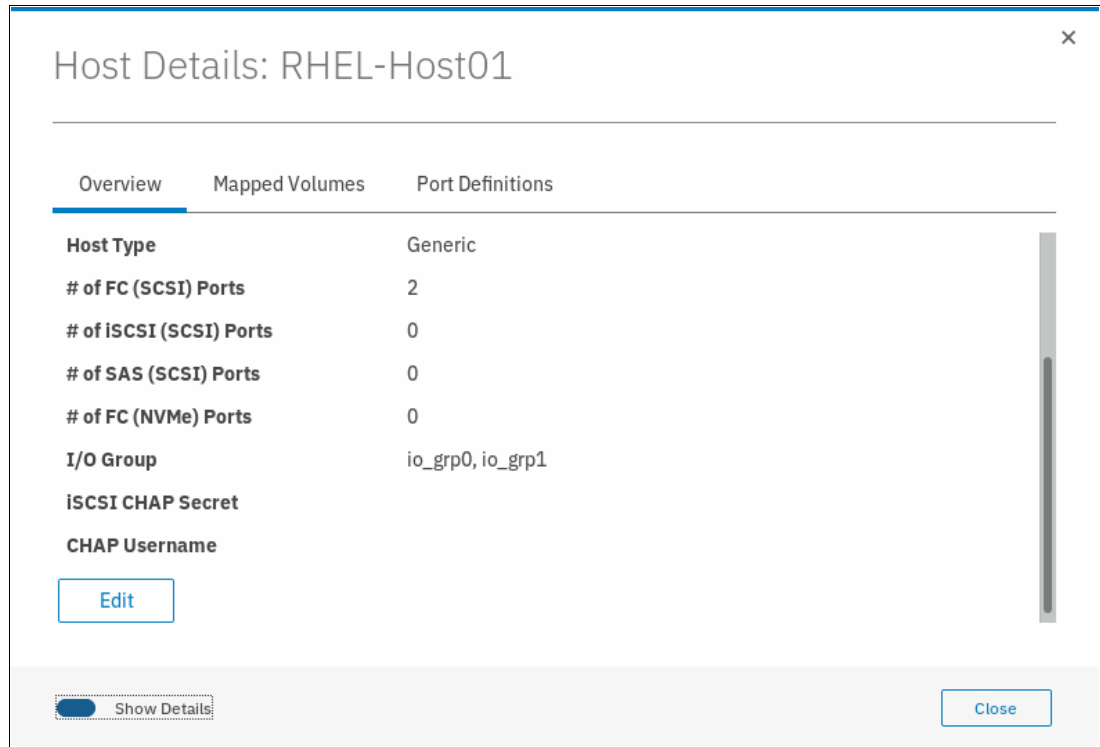

Figure 8-22 Host details
3. Figure 8-22 on page 396 shows the Overview tab of the Host Details window. Select the **Show Details** option in the lower-left corner of the window to see more information about the host.